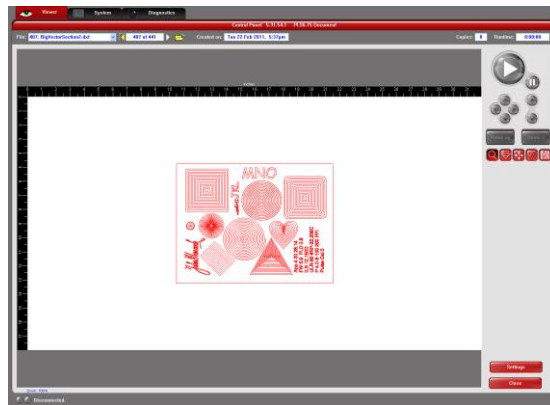

Figure 1: UCP view panel
3. Start the UCP, wait for the icon to appear and launch the application (see figure 1).